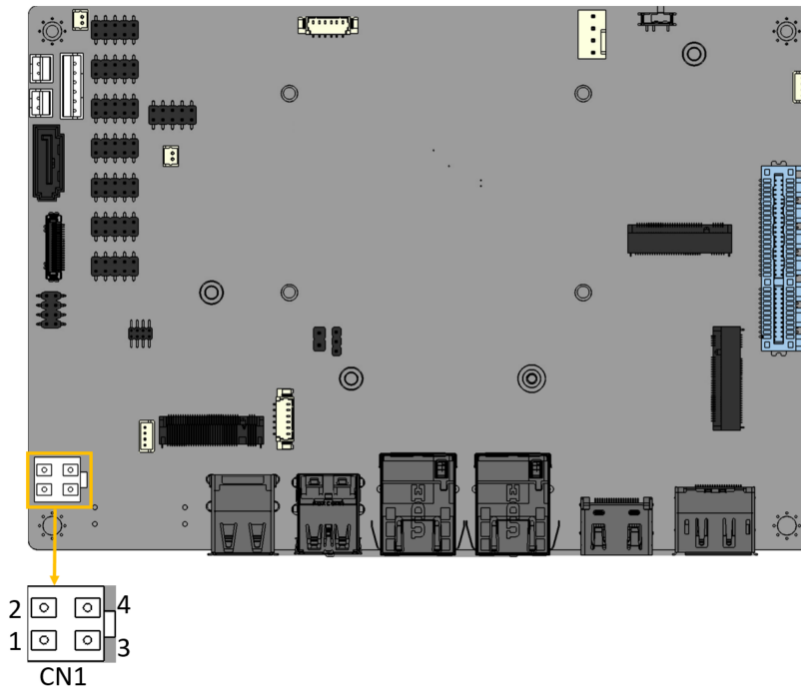

Figure 3-6: ATX 12V Power Connector Location
- CN Location:** See **Figure 3-6**